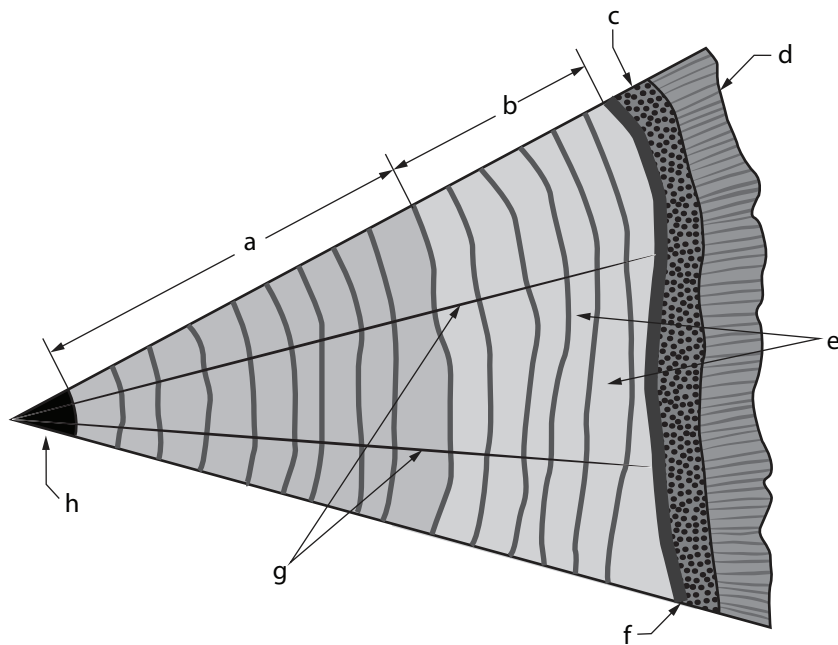

Figure 1
2. Identify each of the structures shown in Figure 1.